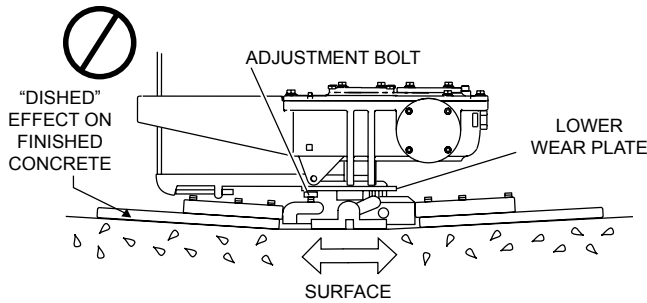

Figure 37. Incorrect Spider Plate Alignment
2. Pitch the blades as flat as possible. The adjustment bolts should all barely make contact with the lower wear plate on the spider. If one is not making contact, adjustment will be necessary (Figure 37).
Figure 37 illustrates “incorrect alignment,” worn spider bushings or bent trowel arms. Check that the adjustment bolt is barely touching (0.10" max. clearance) lower wear plate. All alignment bolts should be spaced the same distance from the lower wear plate.